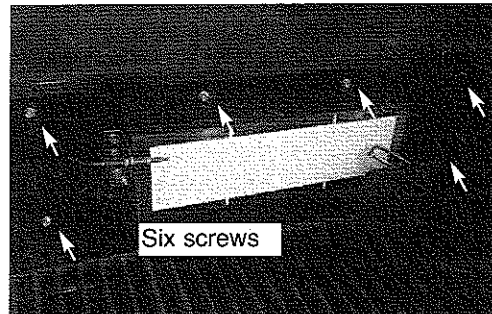

Fig 13
15. Remove the six (6) screws secure the back IR cover and wind shield in position. (See Fig. 13)
18. Use the four (4) screws removed in step 1 to install back IR cover in position, then use the other two screws to install the wind shield. (See Fig. 13)